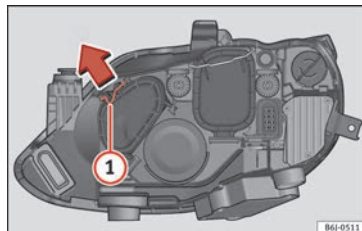

Fig. 88 Double headlight.
- Move the loop ① in the direction of the arrow and remove the cover » Fig. 88.